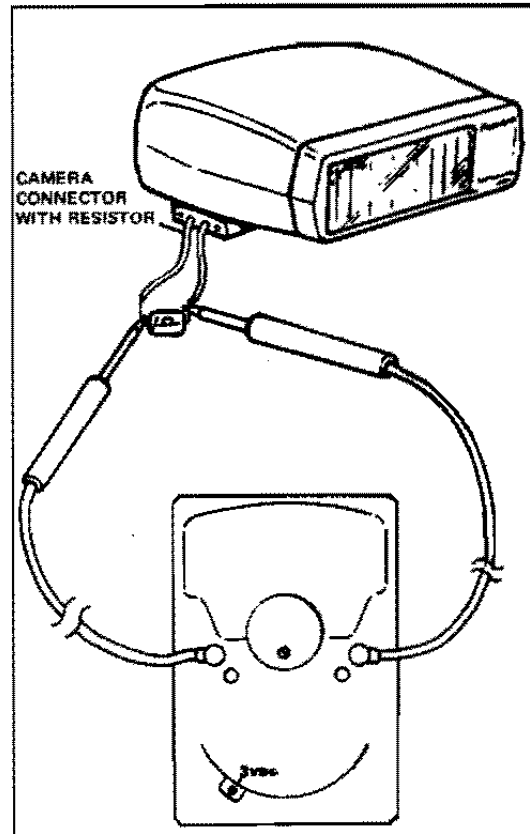

FIG. 3-1 TESTING THE FLASH BATTERY UNDER LOAD
- a. Slide a camera connector which has a one ohm, 25 watt resistor soldered to the battery terminal leads onto the flash connector (see Figure 3-1).